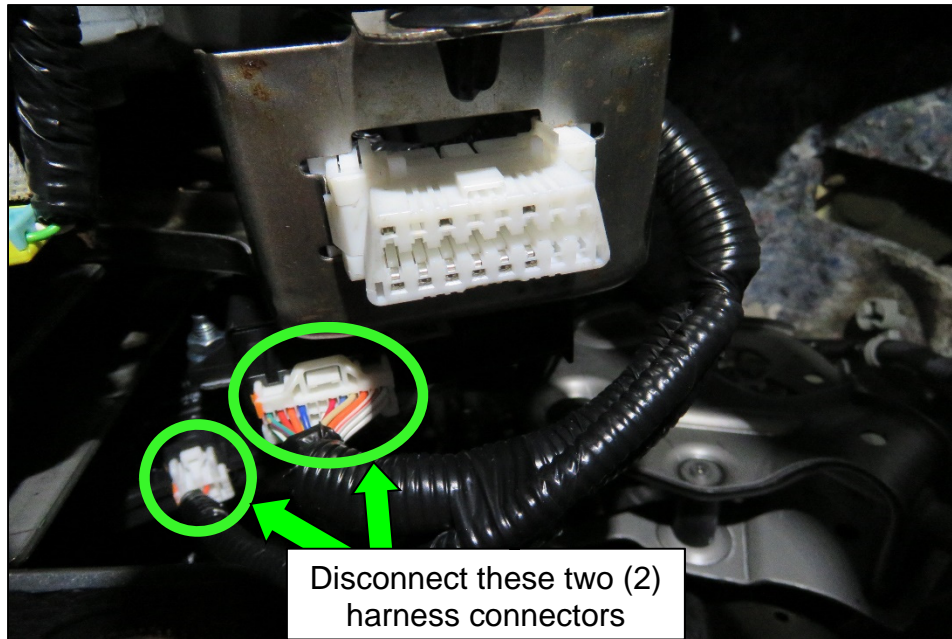

Figure 3
2. Disconnect the white 24-pin Sonar Control Unit harness connector M114 and the smaller white harness connector near it (Figure 3).